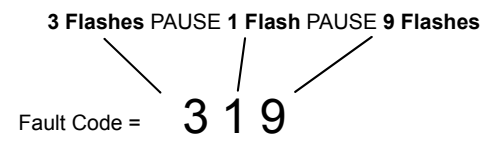

FIGURE 7-6
- c. Red engine stop light flashes a three-digit code to show which active fault has been detected (see Figure 7-6 for example). There is a 1 to 2-second pause between each number.